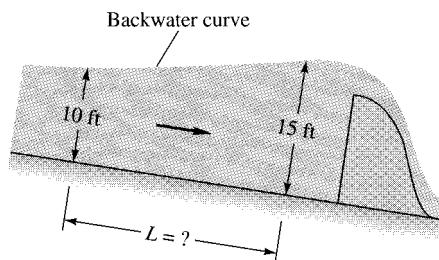

Fig. P10.124
**10.124** Water flows at  $600 \text{ ft}^3/\text{s}$  in a rectangular channel 22 ft wide with  $n \approx 0.024$  and a slope of  $0.1^\circ$ . A dam increases the depth to 15 ft, as in Fig. P10.124. Using gradually varied theory, estimate the distance  $L$  upstream at which the water depth will be 10 ft. What type of solution curve are we on? What should be the water depth asymptotically far upstream?
- 10.125** The Tupperware dam on the Blackstone River is 12 ft high, 100 ft wide, and sharp-edged. It creates a backwater similar to Fig. P10.124. Assume that the river is a weedy-earth rectangular channel 100 ft wide with a flow rate of  $800 \text{ ft}^3/\text{s}$ . Estimate the water-depth 2 mi upstream of the dam if  $S_o = 0.001$ .